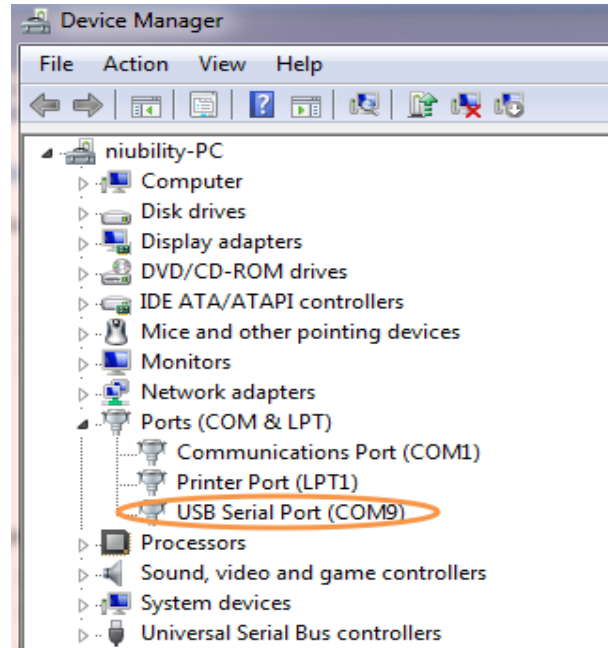

Figure 6-5 Check the assigned Com Port number On PC
- Open the Device Manager to ensure which common port is assigned to the uart to usb port as shown in **Figure 6-5**.The common number 9 is assigned on this computer.
- Open the putty software and setup the parameter as shown in **Figure 6-5** and click open button to open the terminal.